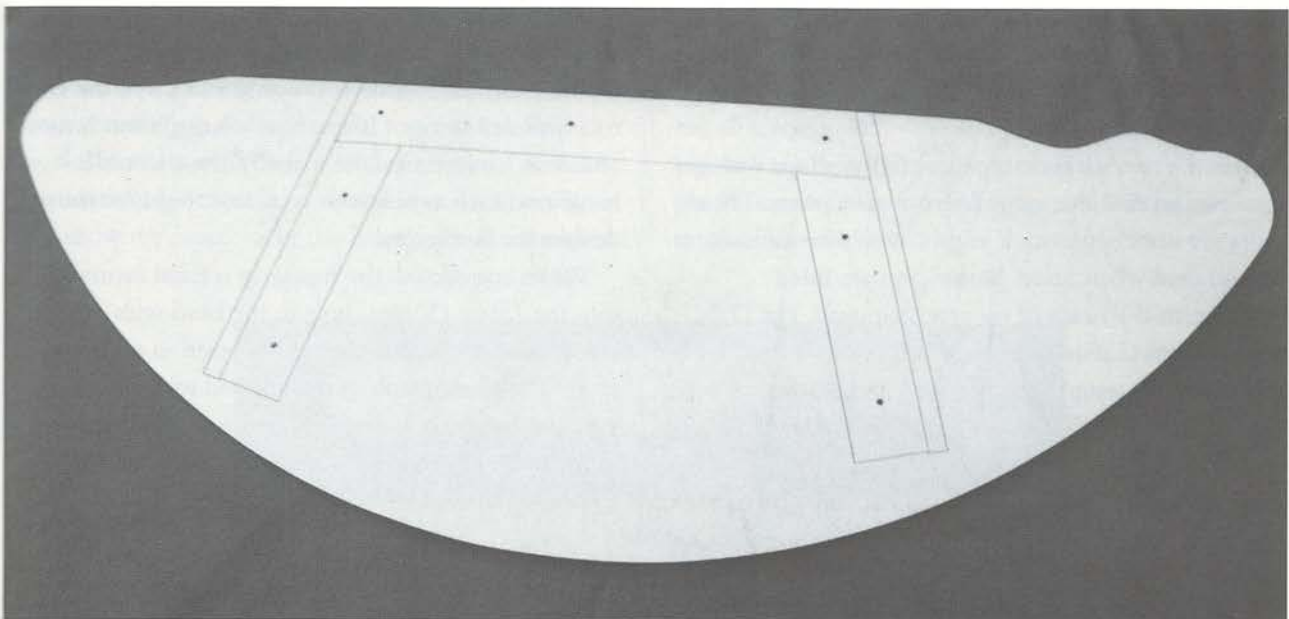

Fig 17.5 Draw the positions of B and C on A, as well as the positions of the drill holes.
Cut two parts B and four parts C from the two-by-one batten material. Separate the two sides (A) and mark the positions for parts B and C (see Fig 17.5). Glue and pin parts B and C in position on the inner faces of A. The pins are to hold the battens in position while they are screwed through the holes in A. As the screws are tightened, excess glue will be forced out from beneath the battens. Wipe away the excess glue with a damp cloth.